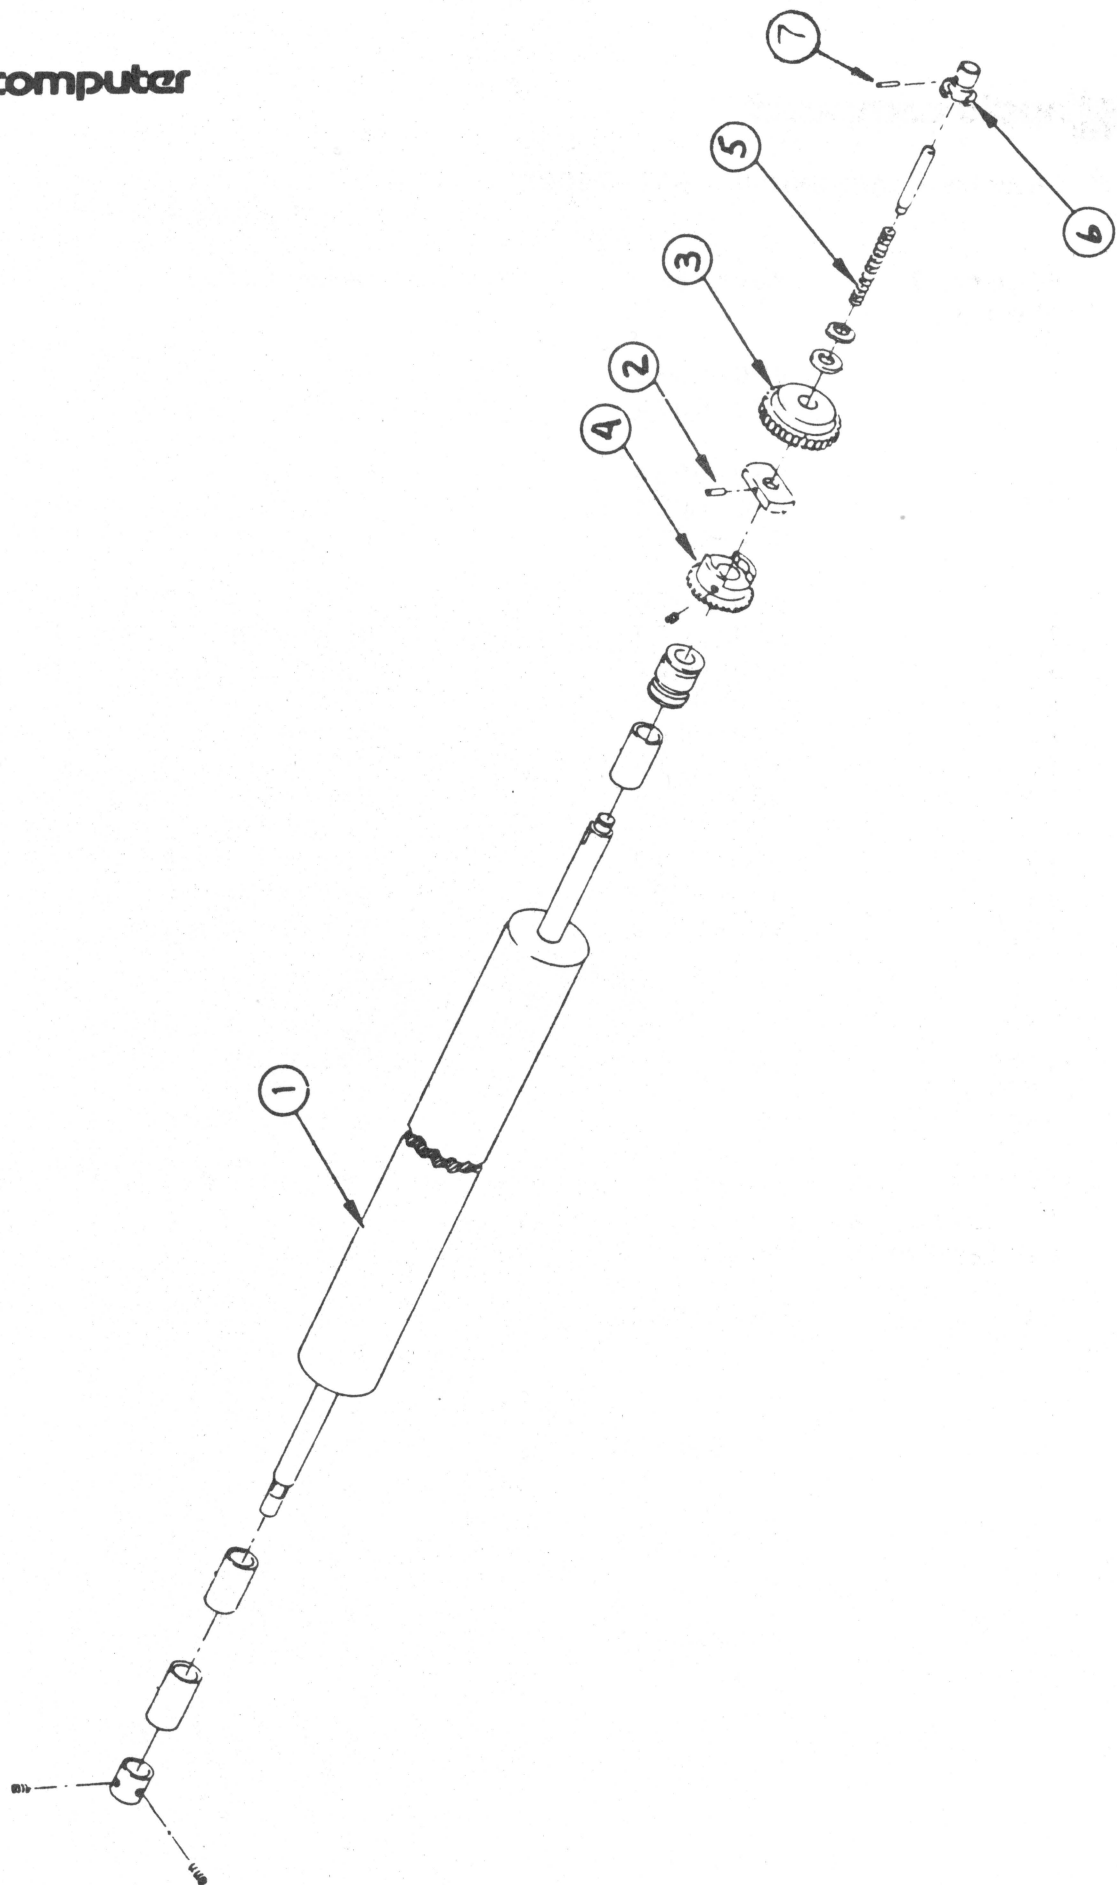

FIGURE 8
**PLATEN ASSEMBLY****699-0101****Platen Assembly complete****Figure 8